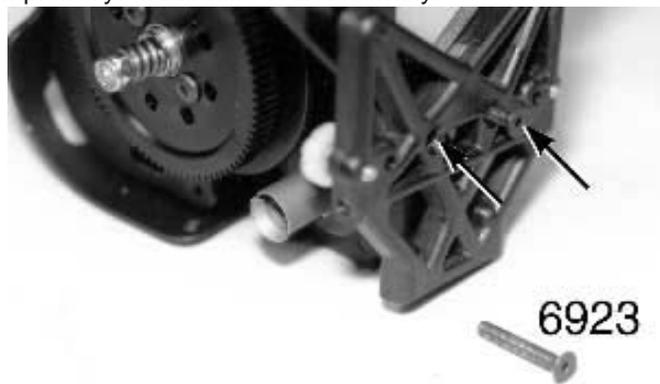

Fig. 87
□ **Fig. 87** From bag #7-4 remove the two #6923 4-40 x 3/4" FHSScrews. We now need to line up the bulkhead and shock strut assembly with the front of the new transmission. Make sure that the two center countersunk holes of the rear bulkhead are facing away from the transmission and that the body mounts and ball ends are on the same side as the transmission. Now fasten the bulkhead and shock strut to the transmission using the two #6923 FHSScrews. You have completed your modular rear assembly.